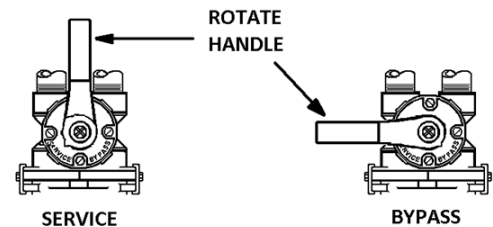

FIGURE 3: Bypass Valve
STEP 10: Open bypass valve ¼ of the way allowing unit to pressurize slowly. It is normal for air to be trapped in the top part of the filter tank. Once the tank is pressurized, place bypass fully in the Service position (figure 3, page 4).